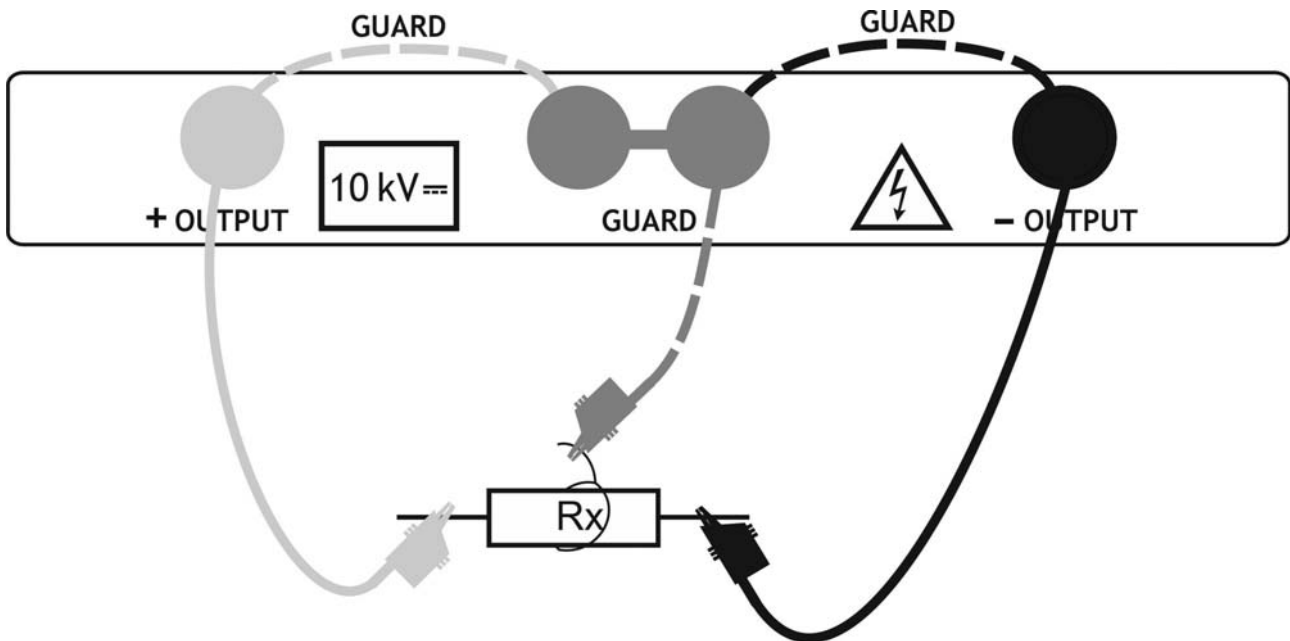

Fig. 33: Connection of instrument for diagnostic test
3. Connect the red part of the Test lead 1 or Test leads 2 (see § 4.2) to the **+OUTPUT** input and the black part of the Test leads 2 (see § 4.2) to the **-OUTPUT** input. In case of use of GUARD terminals (see § 6.2) connect also the green cables to the “GUARD” input (see Fig. 33)
4. Connect the tip of Test lead 1 or Test leads 2 (positive) and the black cable of Test leads 2 (negative) to the object on test (see Fig. 33)